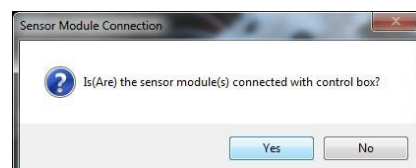

Figure 28. Select RS485 from the drop down menu
2. Next, click "Yes" button as in Figure 28.